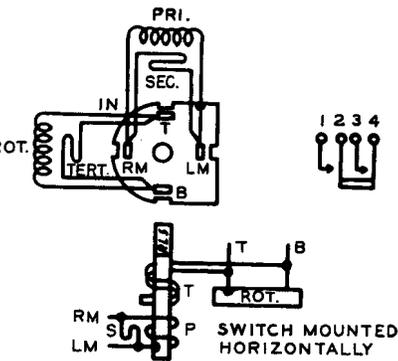

Fig. 110 – Winding and Spring Terminal Arrangement as Viewed From the Rear (terminal side) — 34-Type Signal
4.18 The contact and winding terminals of signals are designated as shown in Fig. 110 through 112.